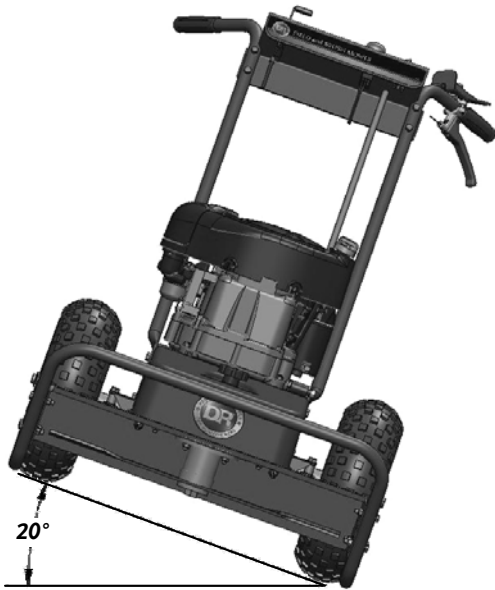

Figure 6
- Never use the PREMIER DR FIELD AND BRUSH MOWER on slopes greater than 20 degrees (*figure 6*). Doing so could result in serious injury or damage to your machine.